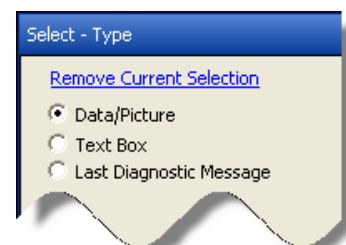

Figure 3-76: Detailed Report - Select - Type Window
1. To add information to the detail area, click the area to highlight it. The Select-Type section opens on the right side of the window. Select the desired option in the Select Type window shown in Figure 3-76.